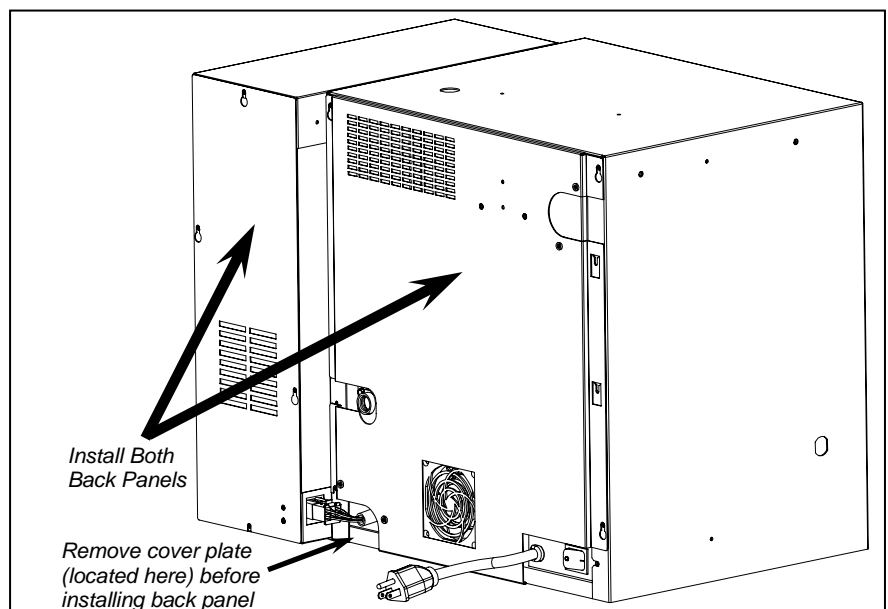

Figure 10 – Re-install the Piccolina and APP back panels.
2. Slide the back panels into position and secure them by tightening the necessary screws (Figure 10).